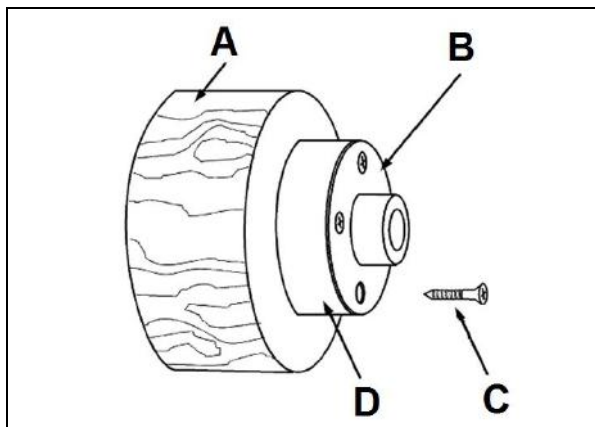

Fig 26
Mount the work piece (A, Fig 26) directly to the face plate using 4 wood screws (C) from the back. Be careful to use screws short enough not to interfere with the cutting process but long enough to hold the workpiece securely to the face plate.